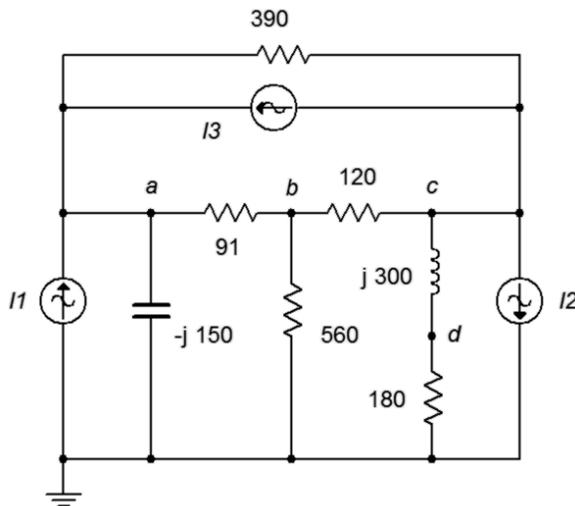

Figure 6.32
67. Given the circuit in Figure 6.32, use nodal analysis to determine  $v_{ad}$ .  $I_1 = 0.1\angle 0^\circ$ ,  $I_2 = 0.2\angle 0^\circ$ ,  $I_3 = 0.3\angle 0^\circ$ .